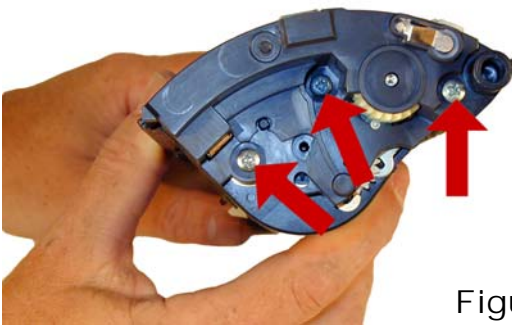

Figure 28
23) Install the black end cap on the gear side. Install the three silver screws. See **Figure 28**